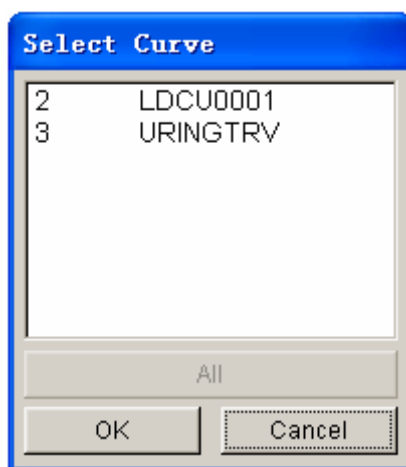

Figure 11.13.10 Select Curve for Renumber
- Select a curve from the SELECT CURVE dialog box shown in Figure 11.13.10.
Select the load curve from the SELECT CURVE dialog box shown in Figure11.13.10.